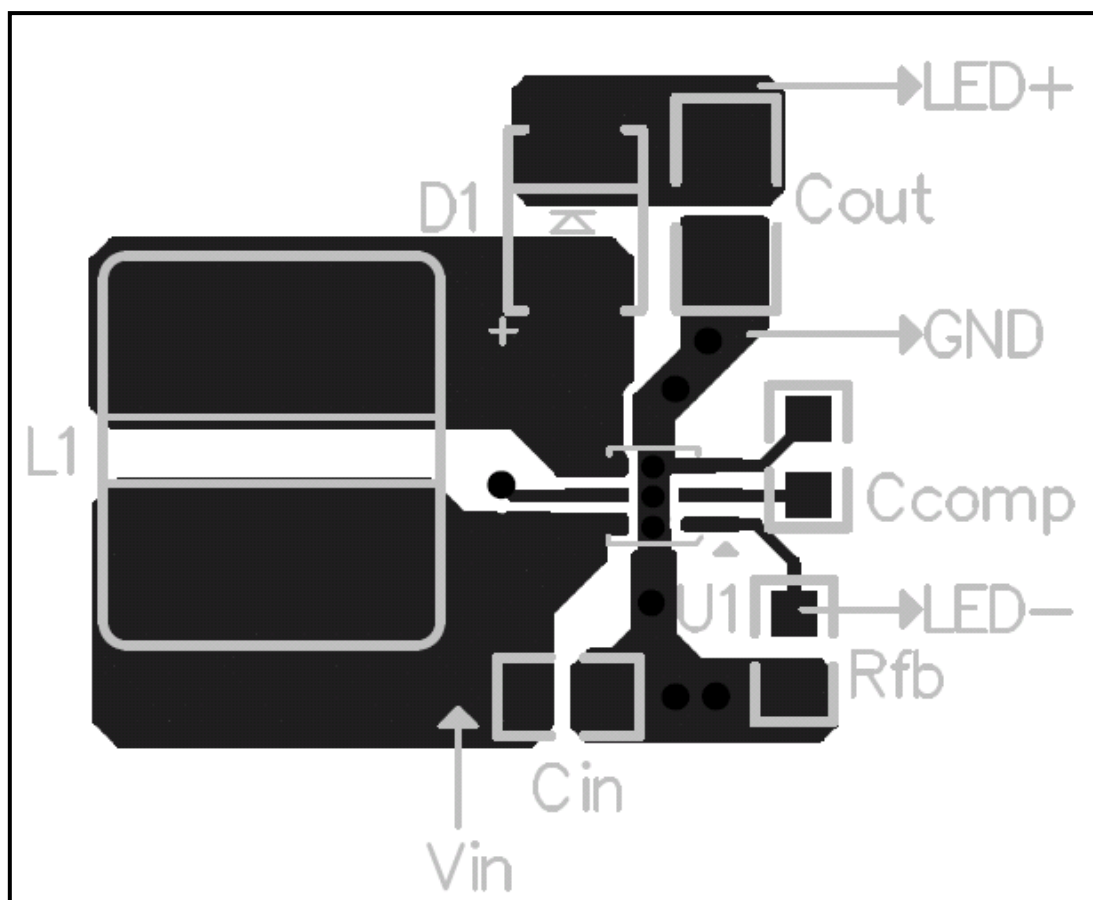

Figure 4. Recommended PCB Layout
A recommended PCB layout is shown in Figure 4. In order to dissipate the package heat, the package center pad (MC) must be connected to a large copper area on the ground plane underneath using multiple vias.